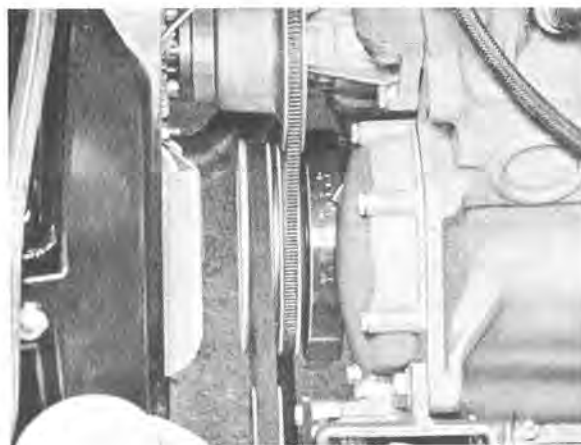

Fig. 3-61. Flywheel damper with graduation for ignition setting
1. Clean the flywheel damper so that the graduation marks are visible, see Fig. 3-61.
Start the engine and adjust the ignition, see Fig. 3-61.